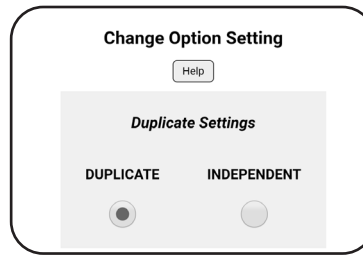

Figure 42
- Duplicate Settings Primary-Secondary = **DUPLICATE** or **INDEPENDENT** (Figure 42)